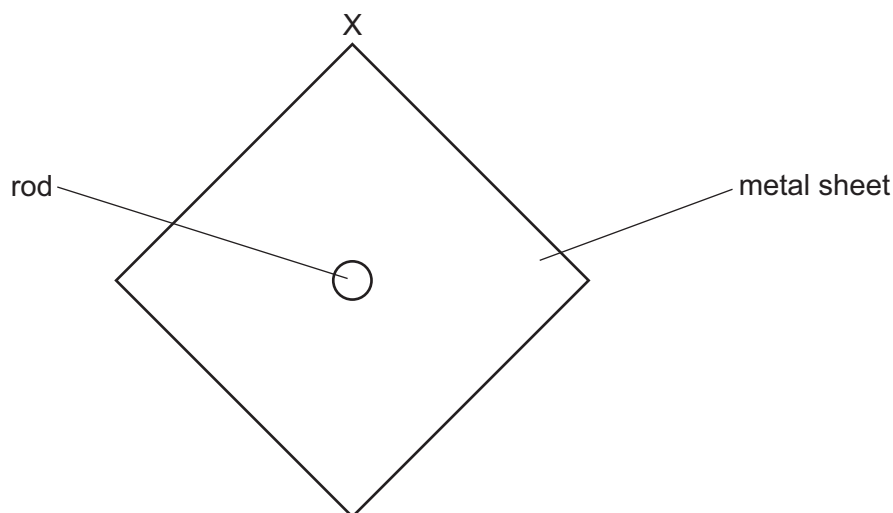

Fig. 2.2
- (b) When the rod is supported in such a way that it can rotate freely within its support, the sheet hangs in equilibrium with point X vertically above the rod, as shown in Fig. 2.2.
On Fig. 2.2, draw a line to indicate the range of possible positions for the centre of gravity of the metal sheet. [1]